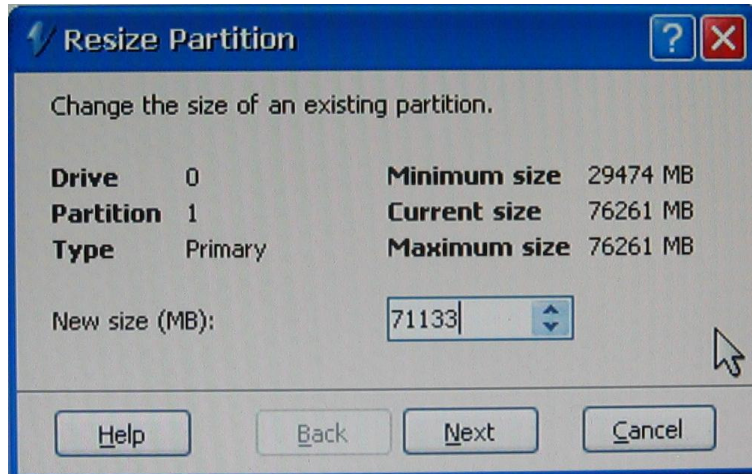

Figure 4-5 Resize Partition
7. In the "New size (MB)" field, enter a value that is 5120MB less than the indicated 'Current Size'. For example, if the original disk size is 76253 MB, you should put 71133 MB in the new size field (see Figure 4-5).